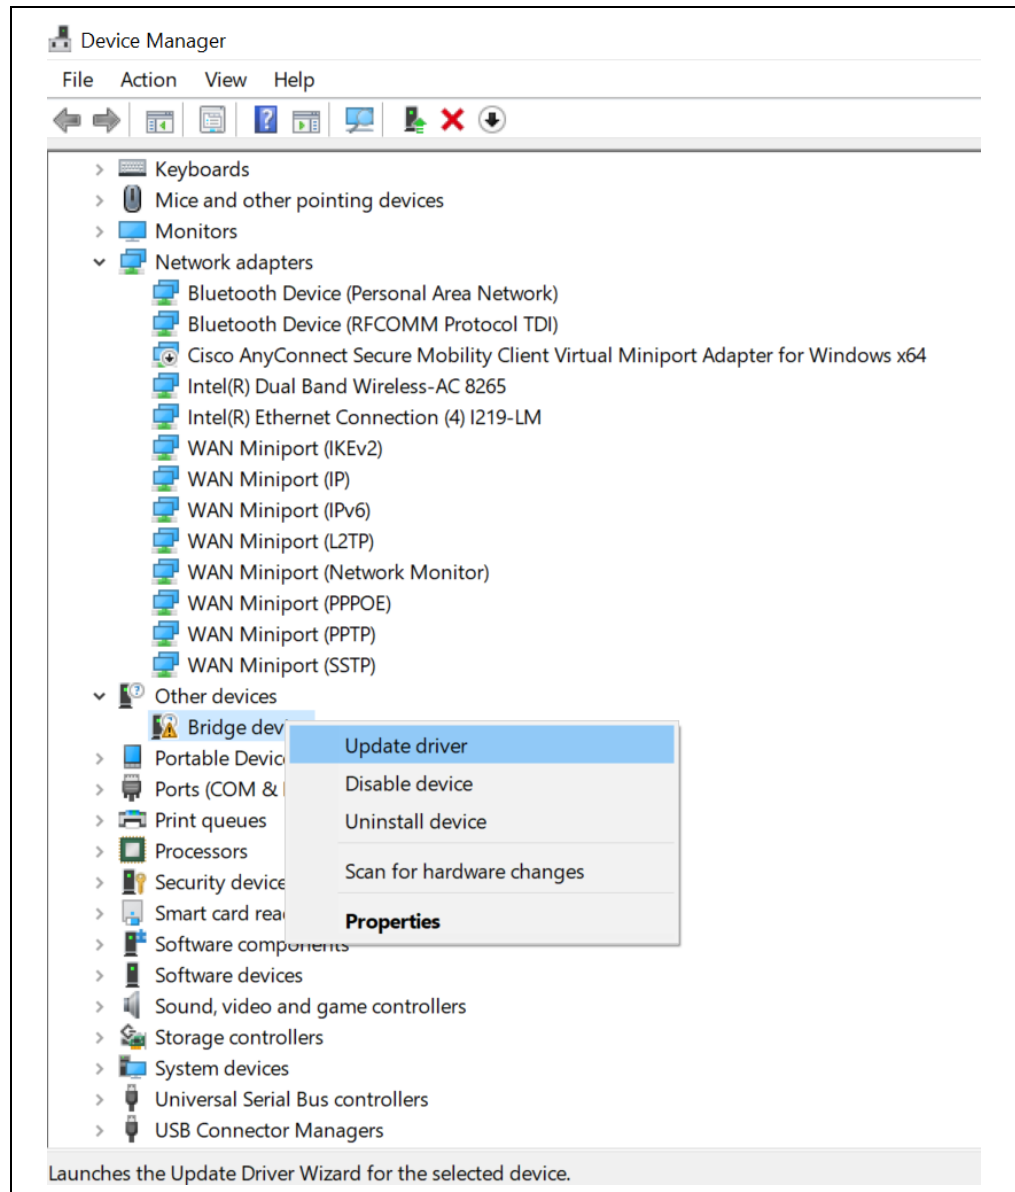

FIGURE 2-3: “Update driver” Pop-up Window.
6. A pop-up window will open as shown in Figure 2-3 below. Choose “Update driver” and click on it.